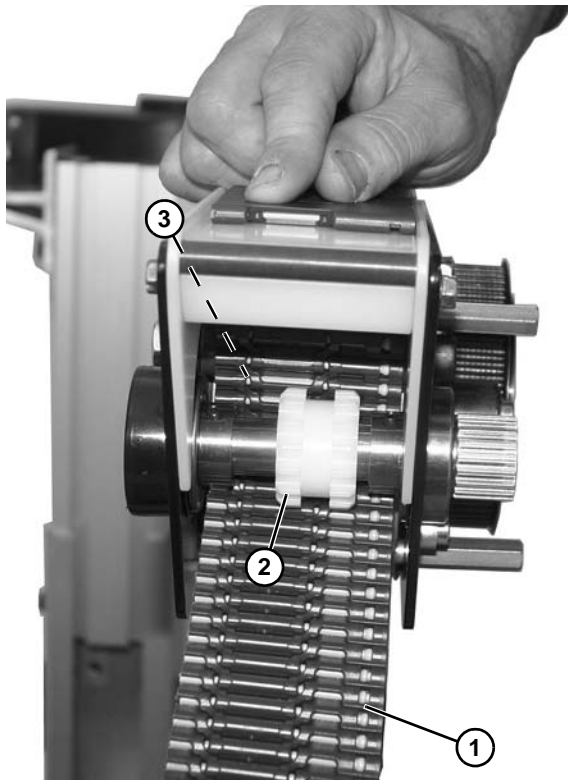

Figure 141
6. Guide belt (Figure 141, item 1) through idler assembly with belt routing under gear (Figure 141, item 2) and over wear tube (Figure 141, item 3).